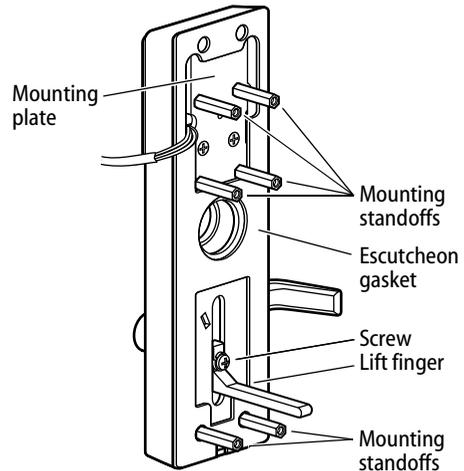

Figure 1 Removing and reinstalling the mounting standoffs, gasket, and lift finger
- 1 Unscrew the six mounting plate standoffs from the mounting plate (Figure 1).
- 12 Position the washer on the lift finger screw. Tightly secure the lift finger with the lift finger screw (25–30 foot-pounds of torque) (Figure 1).
- 14 Screw the six mounting standoffs onto the mounting plate (Figure 1).